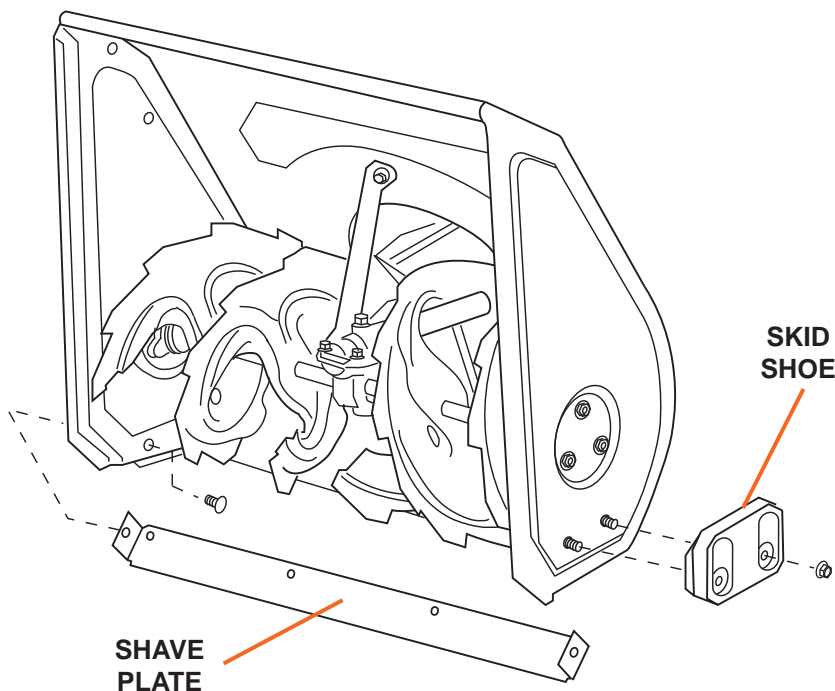

Figure 16
1. Remove the four carriage bolts and hex flange nuts which secure them to the snow blower (see Figure 16).
1. Remove the carriage bolts and hex nuts which attach it to the snow blower housing (see Figure 16).